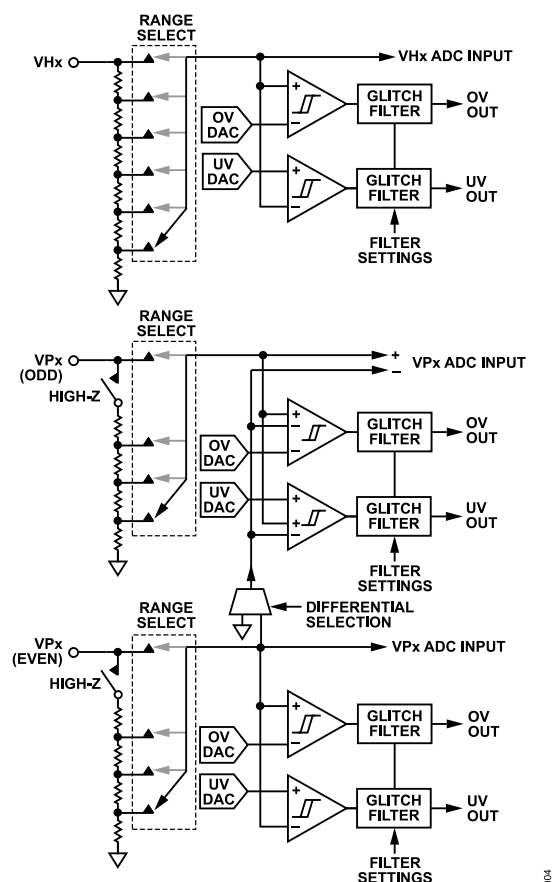

Figure 9. Supply Fault Detectors
The ADM1266 has 17 programmable supply fault detector (SFD) inputs. These dedicated inputs are labeled VHx (VH1 to VH4) and VPx (VP1 to VP13). The ADM1266 is also capable of making precision differential voltage measurements on the VPx pins (the exception is that VP13 cannot be used for differential measurements). One differential measurement requires two VPx pins. The odd numbered VPx pin (for example, VP1) must always be the greater voltage. The next corresponding even number VPx pin (for example, VP2) is used for that differential measurement. Both differential VPx pins must have the same input range selections. The SFD for the odd numbered VPx pin responds to the differential measurement. Figure 9 shows the arrangement of the pins. Each SFD input can be configured to detect an undervoltage (UV) fault (the input voltage drops below a preprogrammed value), or an over-voltage (OV) fault (the input voltage rises above a preprogrammed value). A programmable (up to 100 μ s) glitch filter allows the user to remove any spurious transitions such as supply bounce at turn on.
The UV and OV comparators shown in Figure 9 are always monitoring and sensing the voltage on VHx and VPx. To avoid chatter (multiple transitions when the input is very close to the set threshold level), these comparators have digitally programmable hysteresis. The hysteresis is added after a supply voltage goes out of tolerance. Therefore, the user can program the amount above the UV threshold to which the input must rise before a UV fault is deasserted. Similarly, the user can program the amount below
The ADM1266 has an on-board, 12-bit accurate ADC for voltage readback over the PMBus using the READ_VOUT command (Register 0x8B). Inputs to the ADC consist of the 17 SFD inputs (VHx and VPx pins). The inputs to the ADC come from the back of the input attenuators on the VPx and VHx pins, as shown in Figure 9.